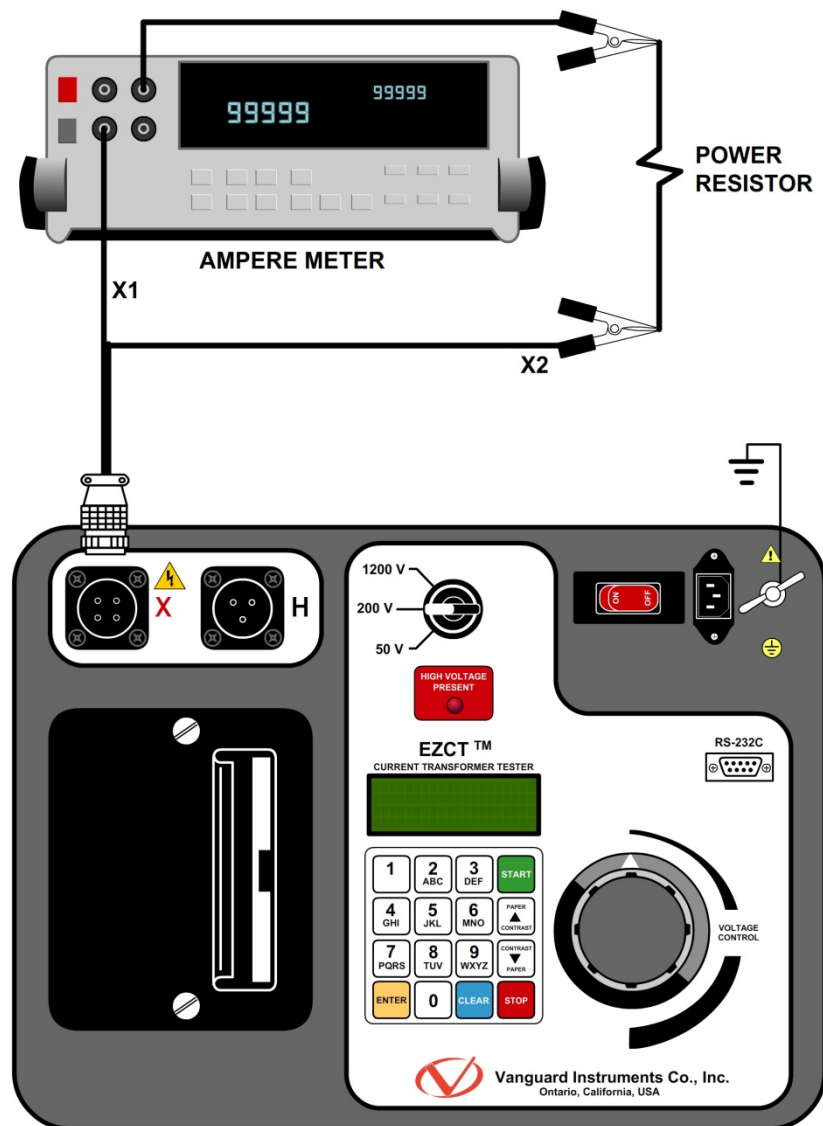

Figure 16. EZCT  $I_x$  Verification Test Connections
- Connect the X cables to a power resistor and an RMS amperemeter as shown in Figure 16.